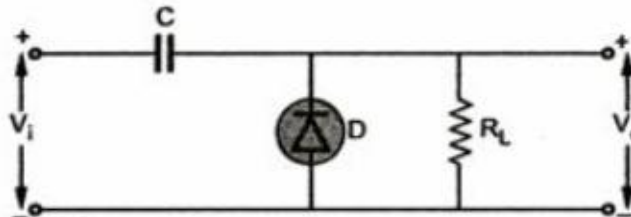

Fig. 1.67 Positive clamper
- The circuit is shown in the Fig. 1.67.